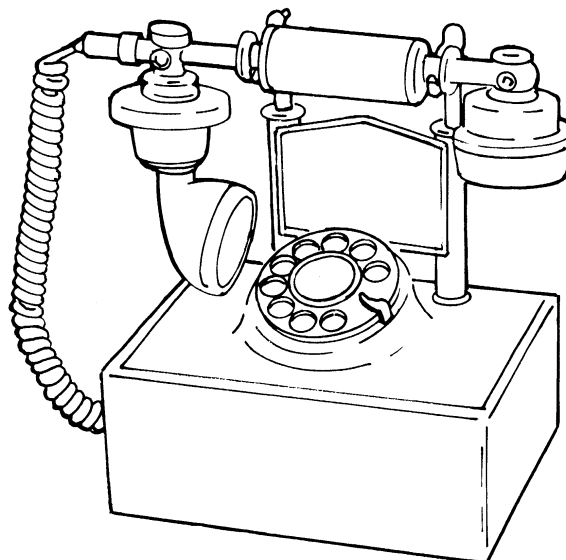

Figure 1. Cradlephone.
2.02 The Cradlephone (Figure 1) is approximately 9-1/2 inches high, 8-1/2 inches wide, and 6-3/4 inches deep. The seven different models are approximately the same size and differ only in trim and color. The models are as follows: